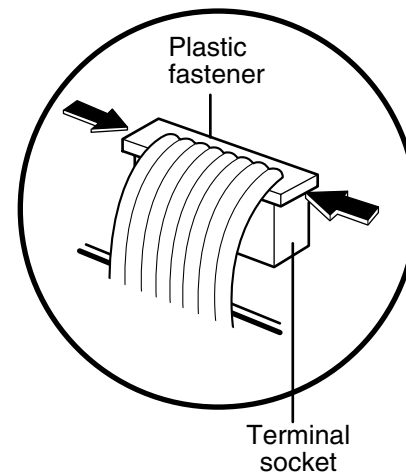

Figure 7
- (3) Lock the level of the plastic fastener into the hook of the terminal socket securely by releasing the fingers. (Figure 7)